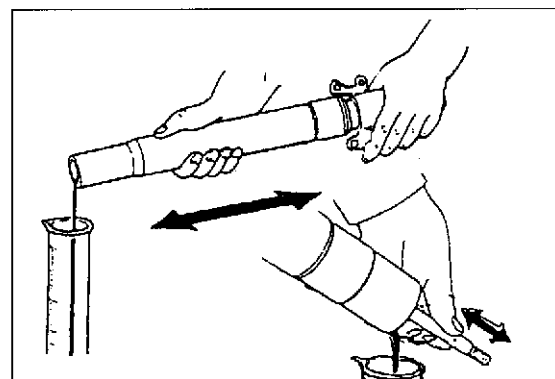

Fig. 3
5) Pour out the fork oil by pumping the fork leg and piston rod 8-10 times. (Until rod moves freely as shown on Fig. 3).